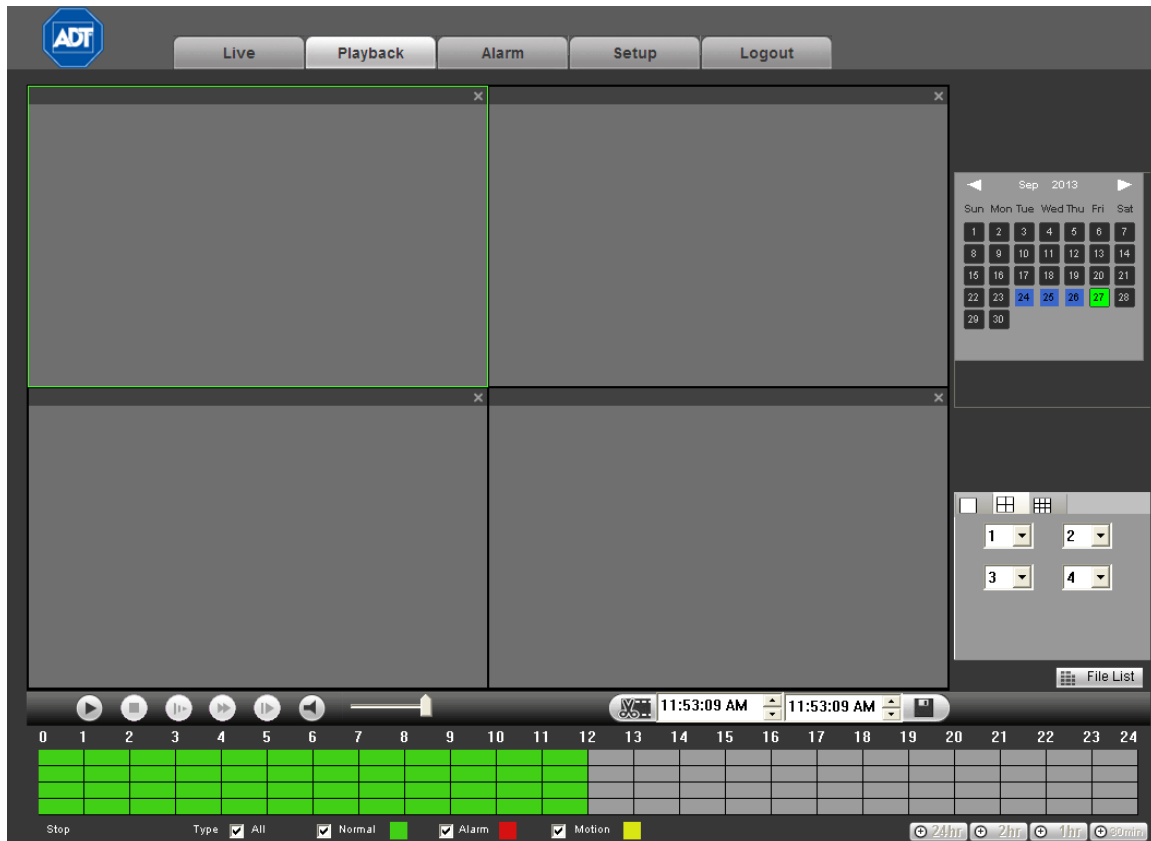

Figure 4-8
1. Click the **Playback Tab** button. The screen shown in Figure 4-8 appears.